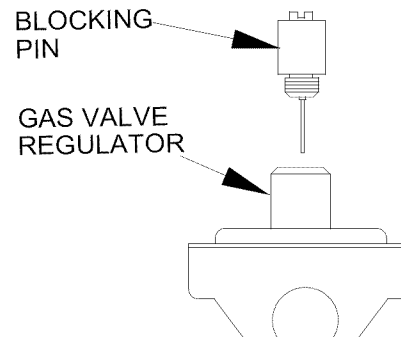

Figure 4
- Install the new blocking pin finger-tight. Do not tighten more than 1/8 turn to seal it. See *Figure 4*.
- Check that the regulator vent cap has been replaced by the blocking pin as in *Figure 4*. (Style "A" valve only).